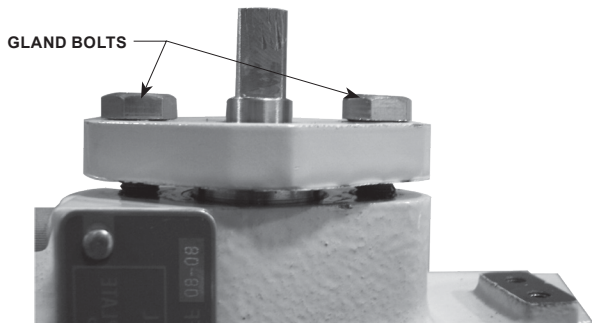
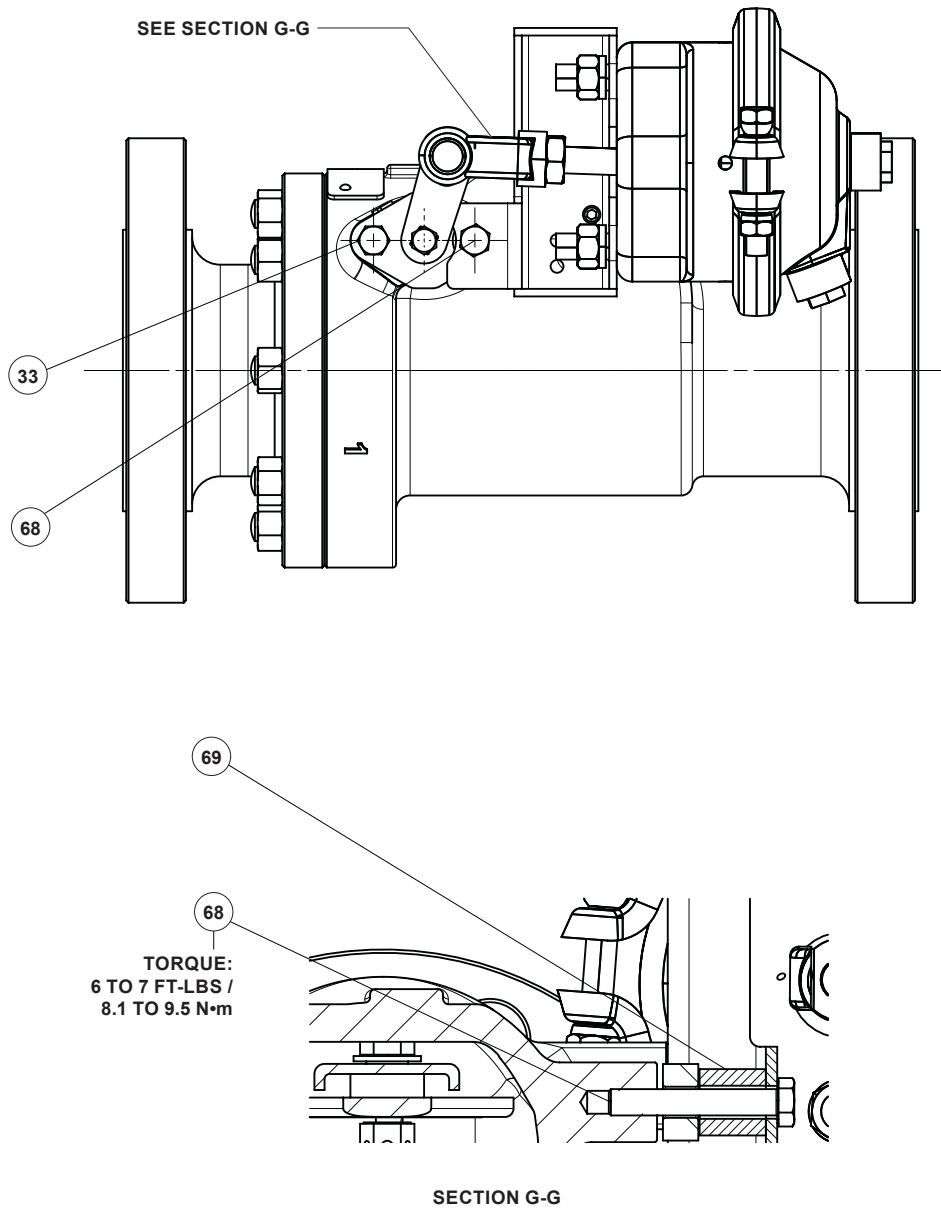

Figure 2. Tighten Gland Bolts Evenly to Keep Retainer Plate Parallel from Valve Body
Figure 6. Type P539A Pneumatic Actuator Assembly Mounted on Type N551-24F
1. Mounting the actuator BRACKET the same direction as Figure 5 onto the valve's rear gland. Replace and tighten the rear gland bolt (key 33, Figure 4). **DO NOT OVER TIGHTEN THE GLAND BOLT** because binding of the ESV shaft could occur. Tighten the gland bolt only enough to prevent leakage and ensure that the retainer plate is parallel to the valve body (see Figure 2). For a N551-24F flanged unit, mount the actuator BRACKET the same direction as onto the valve's rear gland. Ensure spacer (key 69) is placed between rear gland hole and bottom plate of bracket. Replace rear gland bolt (key 33) and tighten with actuator mounting bolt (key 68) (Figure 6).